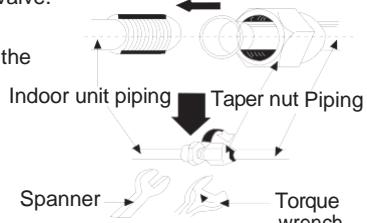

Fig.9
- Hang the mounting slots of the indoor unit on the upper hooks of the mounting plate and check if it is firm enough.(As shown in Fig.9)